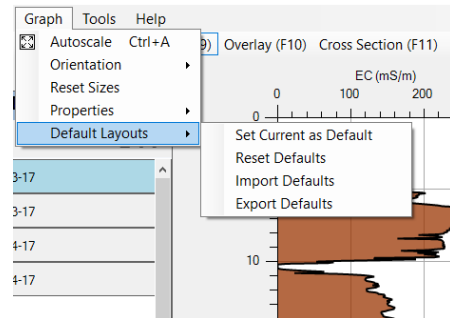

Figure 15: Default Layout Settings
2. Save defaults: selected graphs and order, line and color settings for a specific DI mode can be exported and imported onto different computers (Fig. 15).